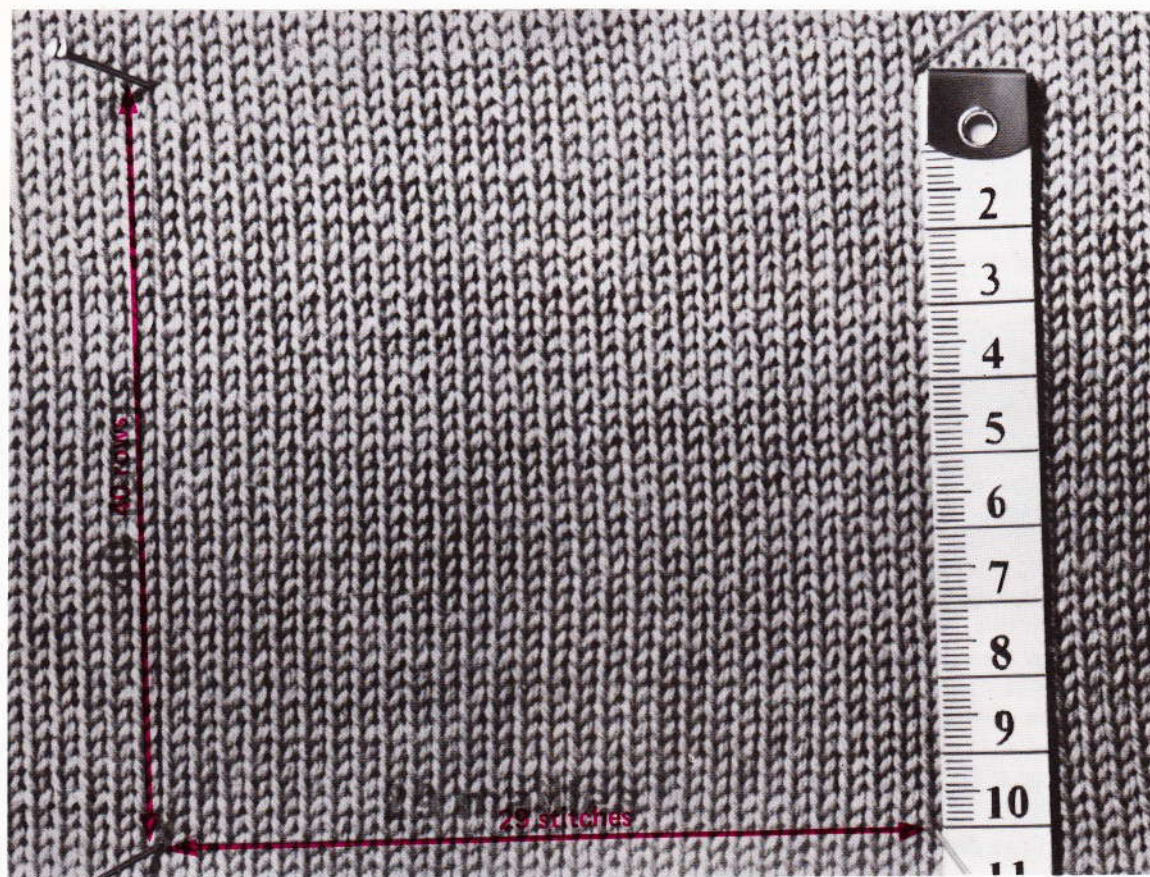
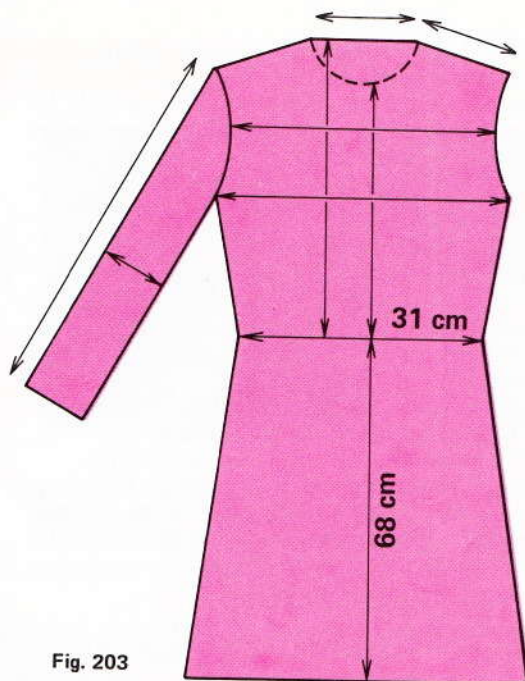

Fig. 202
Fig. 203
4. **Measure the tension piece** accurately. Without pulling or stretching, pin the tension piece so that the rows and stitches are quite straight (fig. 202) and measure :
- the number of row over 10 cms (4 ins) in depth (in fig. 202 = 40 rows),
- the number of stitches over 10 cms (4 ins) in width (in fig. 202 = 29 stitches).
5. **Take the correct measurements** of the person for whom the garment is intended, using a tape measure and following instructions on fig. 203.
Example of fig. 203 using tension as fig. 202 :—